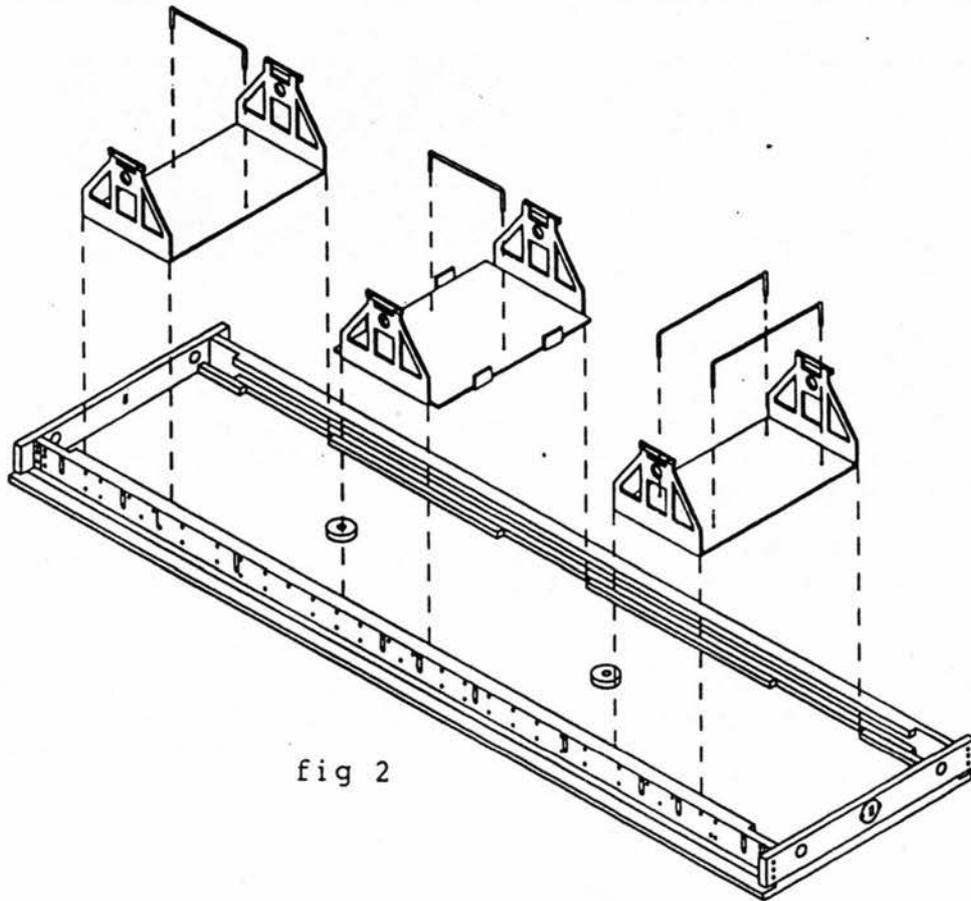
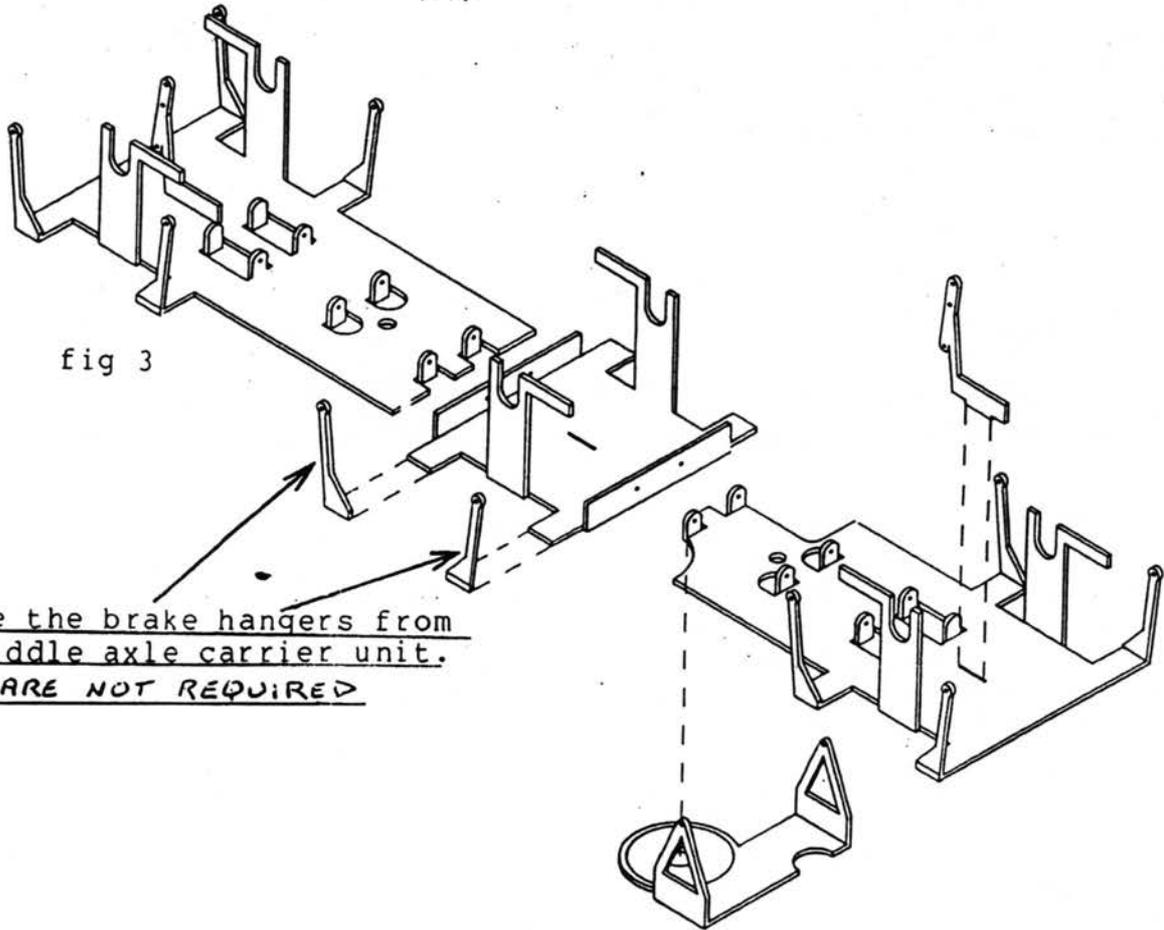

fig 2
fig 3
4. Remove the three w-iron assemblies (1,2 & 3) from the etched fret and, referring to figure 2, bend up four lengths of 0.020" diameter brass wire to fit into the holes in each unit. These form the pivots for the compensation. Solder them in place noting that they must lie on the same side of each component as the main fold lines. Now cut off any excess wire on the top and file flush - this is important!
5. Using a blunt scribe and Plastikard anvil, or better still a rivetting tool, punch out the rivets on the stays on these w-irons. Fold the stays back through 180° (fold line on the outside of the bend) so that the stays will end up on the outside face of each unit. Now fold up the w-irons at 90° to the stretcher and, in the case of the middle unit (3), the small rectangular tabs. When satisfied that all are square reinforce each bend with a fillet of solder.
6. Using an epoxy adhesive (e.g. Araldite or similar) fix each w-iron unit to the floor in between the raised ribs. Ensure that each unit is in the correct position; figure 2 should make this clear.
7. Remove the outer axle parts (4 & 5) from the etched fret and fold up the bearing supports, brake hangers and spring wire tabs. Note that it may be necessary to drill out the holes in the tabs No.74 (0.022"/0.58mm) to allow the piano wire spring to pass through. The centre unit (6) can also be prepared. Note that on these vehicles the centre wheels were not originally braked. Carefully remove the brake hangers at the fold line. When satisfied all is square, solder reinforce at each fold. At this stage check that the centre unit (6) fits into the centre w-iron unit. It should slide freely from side to side between the folded tabs.
8. Referring to the brake gear sketch in figure 3 solder the brake levers (8) into the slot in the centre of each of the units.